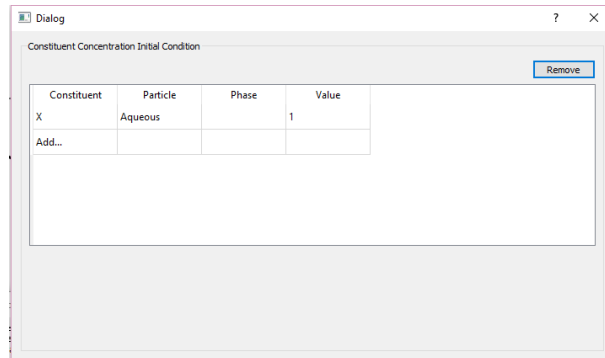

Figure 4.12: Setting initial biomass concentration in the simple activated sludge model
9. **Biomass initial condition:** There should be some biomass in the clarifier initially for the biomass growth to be possible. We will start from a small ( $1\text{mg}/\text{L}$ ) concentration of biomass. Click on the **Aeration tank** and in **Properties** click on the box in front of **Constituent Initial Concentration**. From the window that will pop up, select X as the constituent and enter the value 1 then close the window (Figure 4.12).